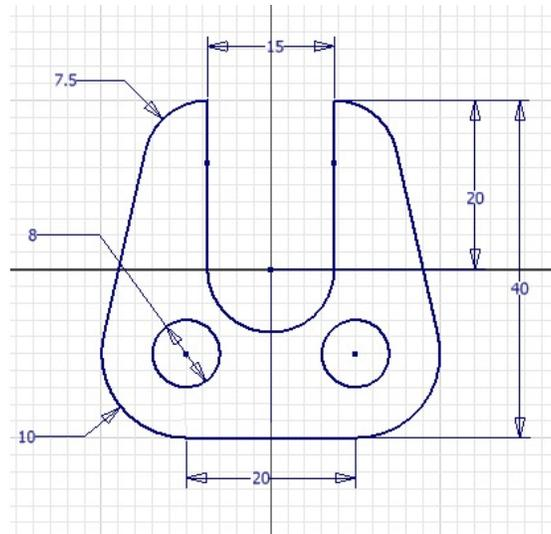

Figure 3-62 The final dimensioned sketch for Tutorial 3
- c. Draw inner circles and add constraints and dimensions to them, refer to Figure 3-62.
Notice that because of the **Equal** constraint, the size of the right circle is automatically modified to match the dimension of the left circle. The final sketch for Tutorial 3 after drawing and dimensioning circles is shown in Figure 3-62.